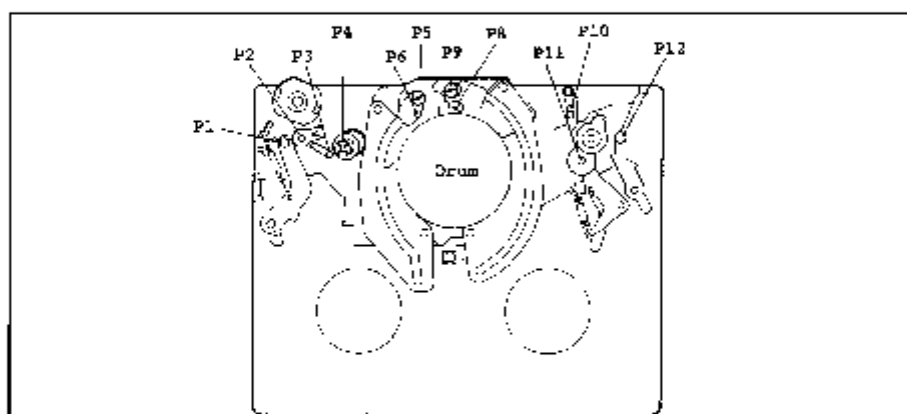

Fig. II-2
2-2 Cleaning of tape path (Fig. II-2)
- (1) In EJECT mode, clean the tape path (P1, 2, 3, 4, 5, 6, 8, 9, 10, 11, 12 and pinch roller) and the lower drum by using a lens tissue with ethyl alcohol moistened. (See Fig. II-2)